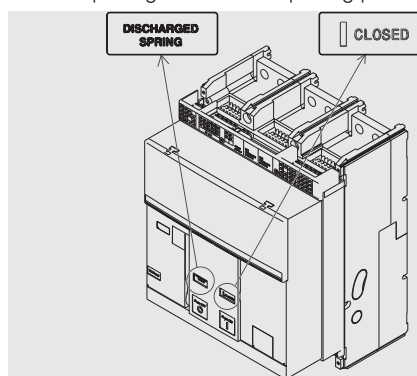

Figure 22
5. Check that the circuit-breaker is closed (open/closed indicator "I - CLOSED"), and check that the springs are discharged (spring signalling device "white - DISCHARGED SPRING") as indicated in Figure 22.